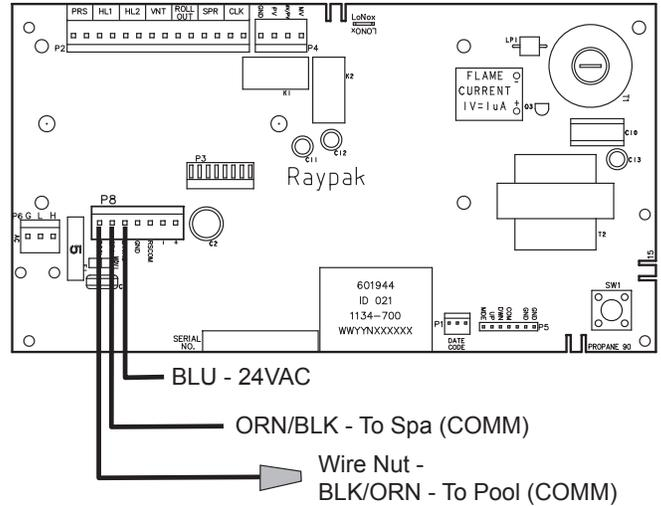

Figure 55. 2-Wire Remote Harness Installation on the P8 Connector of the Board
- Install the "7-Pin Remote Interface Harness" to the P8 connector and turn power "ON" to the heater. See **Figure 55**.